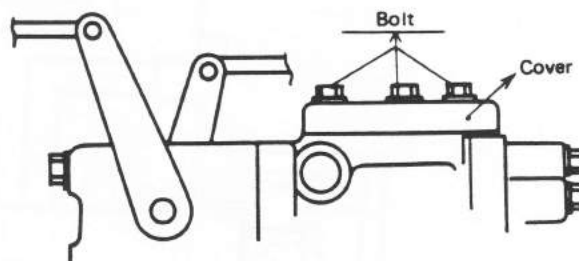

Fig. 26 Bolt Positions
- c. Remove the three bolts (M8 x 30) as shown in Fig. 26, and remove the cover.